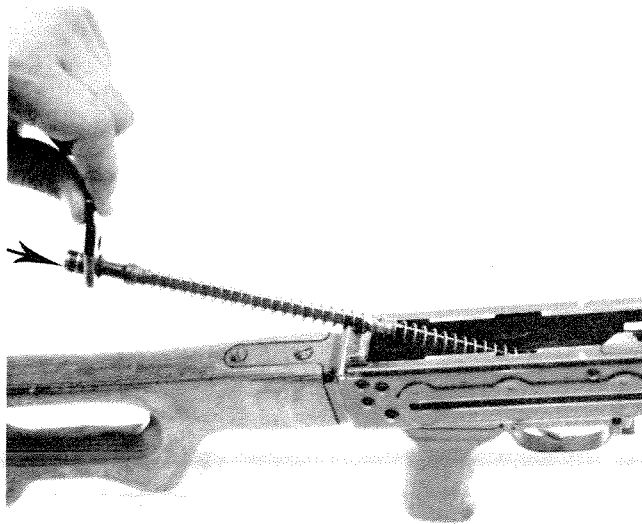
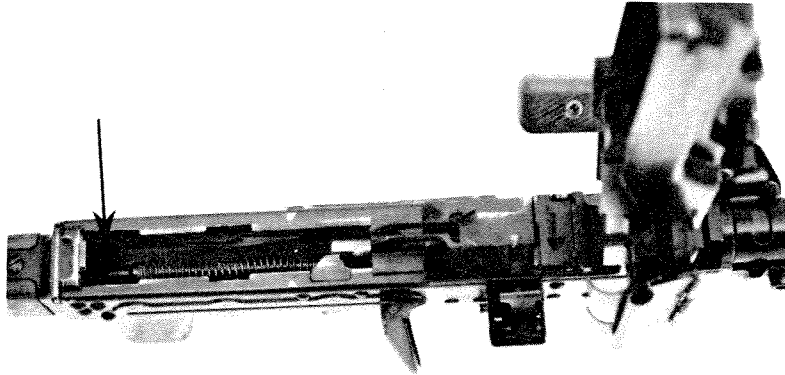

Figure 5-10. Guide rod and mainspring aligned and pushed forward in receiver group.
Figure 5-11. Guide rod seated in the receiver group.
g. To insert the mainspring and guide rod, align the mainspring and guide rod with the rear opening of the sliding cam (fig. 5-10). Push the mainspring and guide rod forward and down until the notch at the end of the guide rod is seated in the receiver group (fig. 5-11).